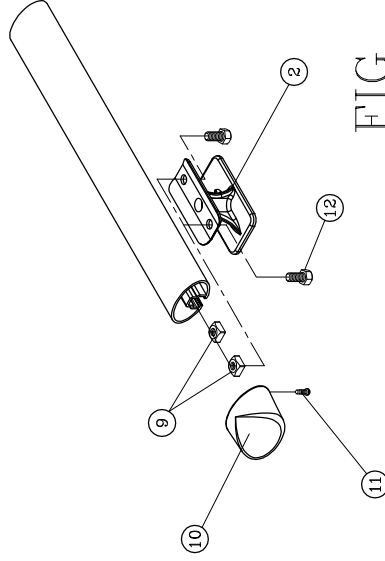

FIG. 4
- 4.2 Using the 3/8-16 x 3/4" hex screw, (item #12) attach the base to the bed rail. Start all the bolts before tightening them down as shown in **fig. 4.**